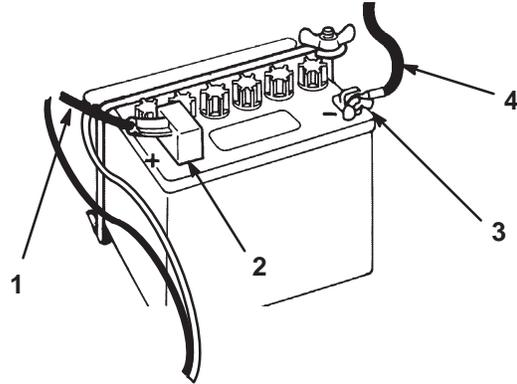

Figure 22
8. Install the battery into the chassis (Fig. 22).
10. Using the bolt and wing nut, connect the positive (red) cable to the positive (+) battery post (Fig. 22). Slide the rubber cover over the battery post.
11. Using the bolt and wing nut, connect the negative (black) cable to the negative (-) battery post (Fig. 22).